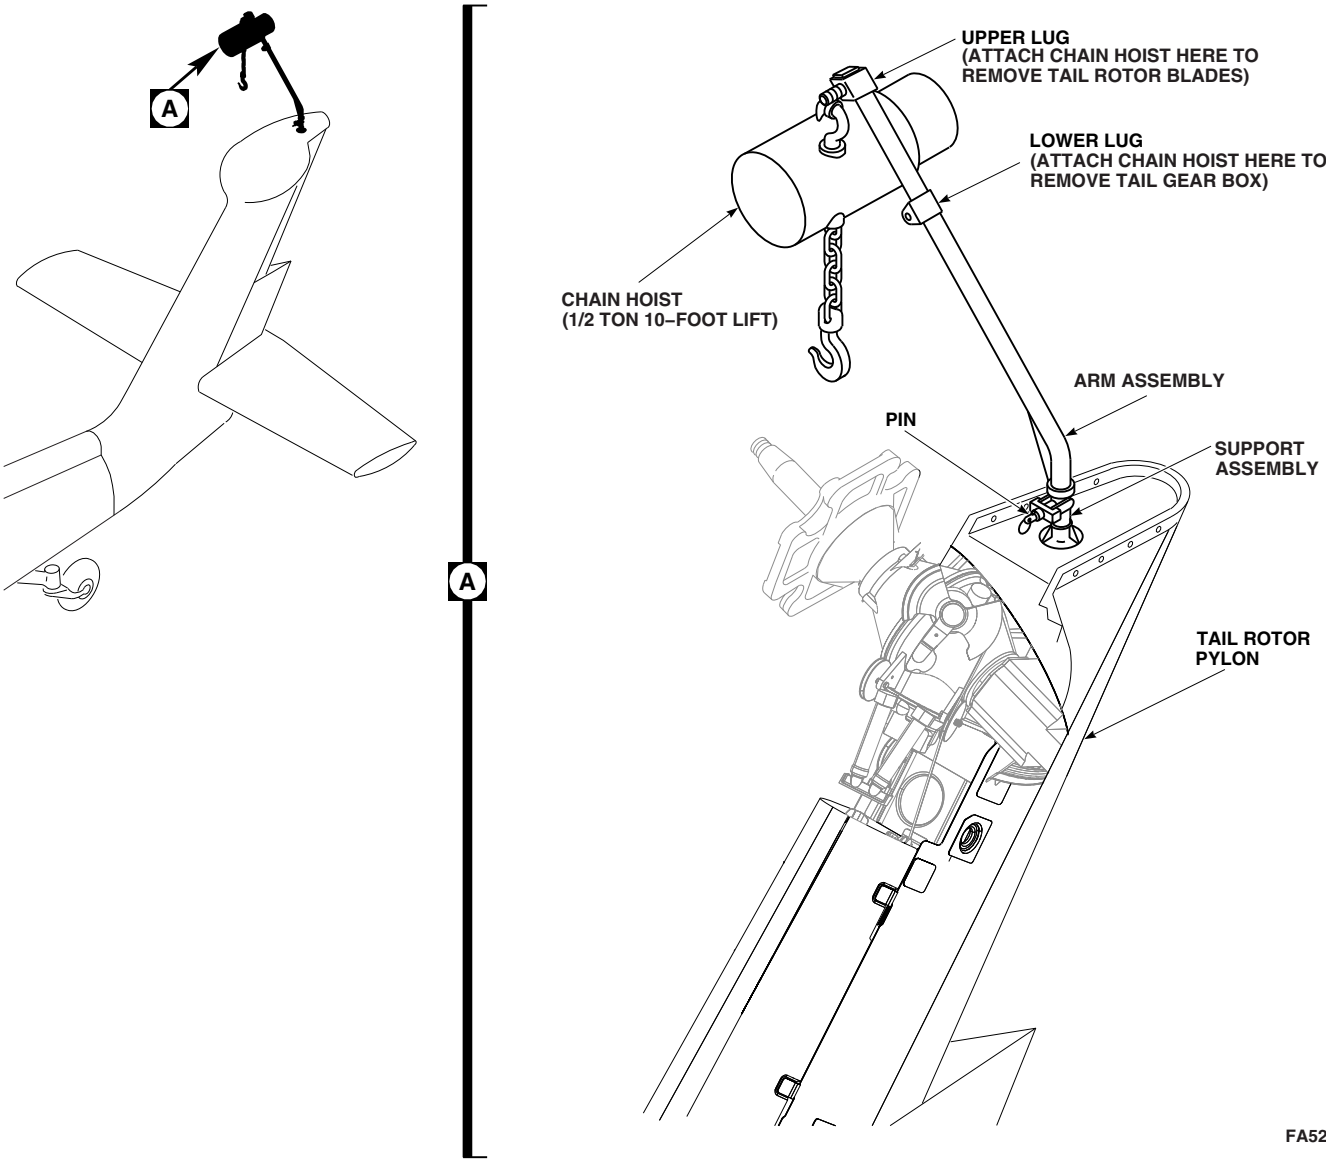

FIGURE 18-4-2-2. INSTALL TAIL MAINTENANCE CRANE
- Loosen turnlock fasteners and remove access panel (Figure 18-4-2-1, Detail A).
- Insert support assembly through hole into tail rotor pylon (Figure 18-4-2-2, Detail).
- Disconnect chain hoist from arm assembly (Figure 18-4-2-2, Detail A).
SA**FIGURE 18-4-2-1. REMOVE TAIL MAINTENANCE CRANE ACCESS PANEL**
e. Install tail gear box fairings (PARA 2-4-137) or access panel as follows (Figure 18-4-2-1, Detail A):
(1) Position suitable maintenance platform next to tail gear box.
(2) Position access panel on top of rear tail gear box fairing and secure with turnlock fasteners.